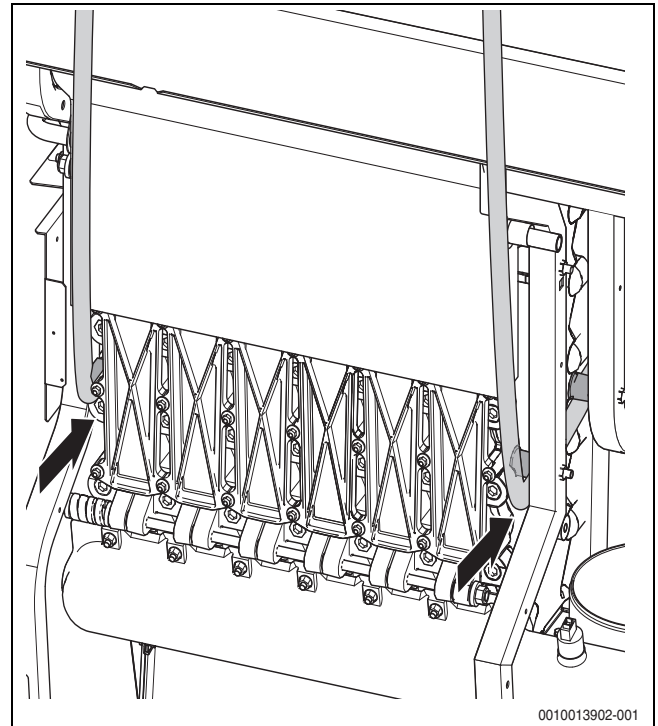

Fig. 5 Guide of crane lifting gear on the frame
- ▶ Pass the lifting gear (round slings) through the boiler frame (→ Fig. 5).